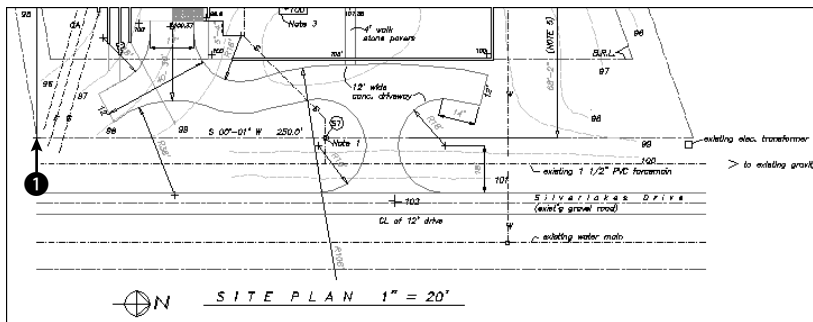

Figure 16-35: The completed multiline.
3. At the Specify start point or [Justification/Scale/Style]: prompt, choose the From object snap. At the Base point: prompt, choose ❶ in Figure 16-35. (If necessary, press Tab until you get the Intersection object snap.) At the <Offset>: prompt, type @0,-10' ↵.
4. At the Specify next point: prompt, move the cursor to the right and type 255' ↵. If you want, you can experiment by drawing other line segments. Press Enter to end the command. The drawing should look like Figure 16-35.